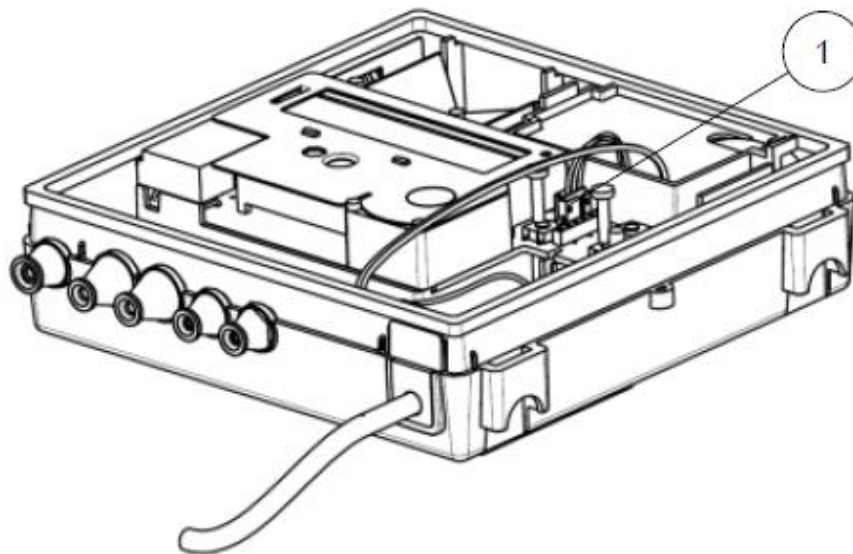

Figure 3: Connect the power
Connect the L+G UH50 power connector (1) to the on-board connector as illustrated by Figure 3. Make sure to cut the wiring to a proper length and attach it to a main plug.